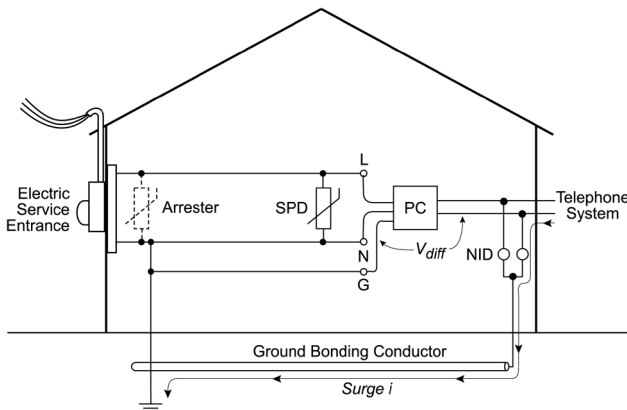

Figure 1
In the set-up of Figure 1, a personal computer (PC) is connected to both the power system and the telephone system, and we assume that a surge is coming along the telephone wires. The surge current ("Surge I " in the figure) flows from the telephone system toward the common grounding point via the network protective device (NID) at the point of entry, and the grounding conductor mandated by the National Electrical Code (NEC®). This current produces a magnetic field that couples into the loop formed by the power branch circuit, the telephone premises wiring lines to the PC, and the bonding conductors. A voltage (V_{diff}) is induced in the loop and appears across the power input and telephone input of the PC, with upsetting or damaging consequences. The presence or absence of surge protection on the AC side (Arrester or SPD) has no effect on the coupling. One effective solution is to have the consumer install a combined protector, as explained on page 12.